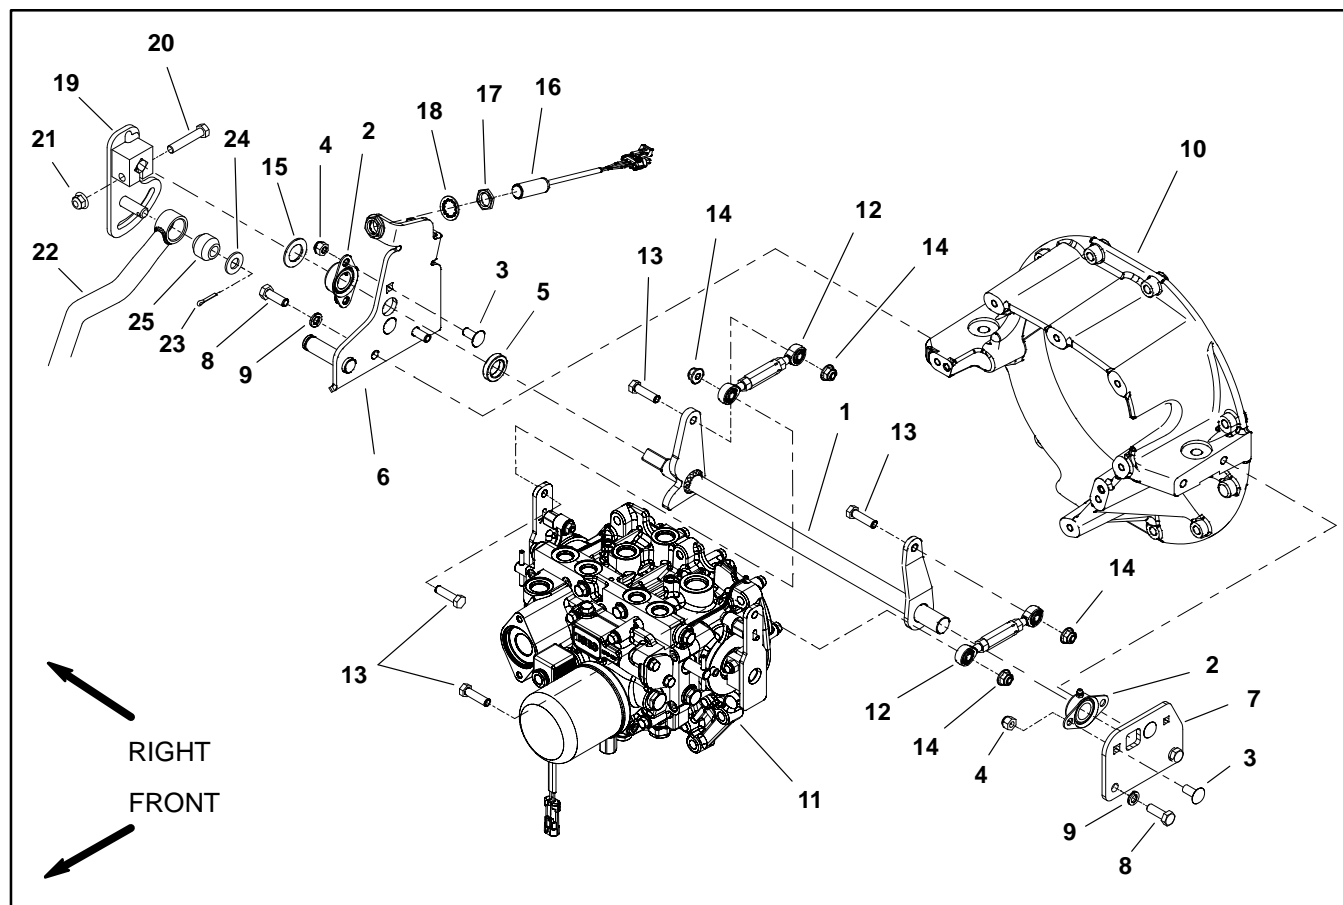
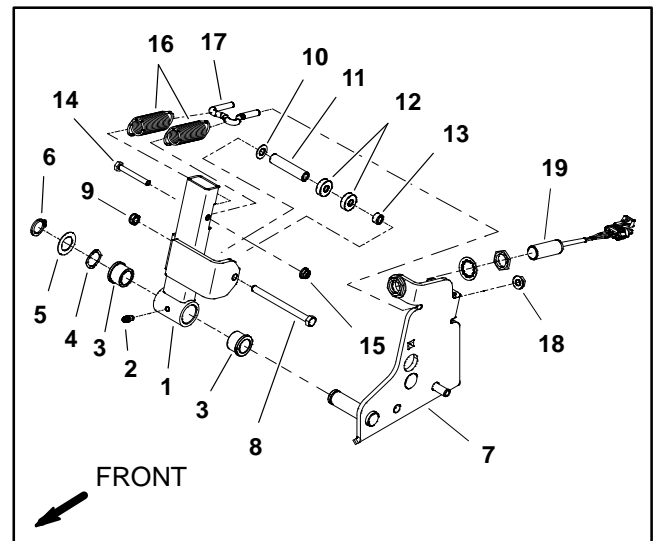
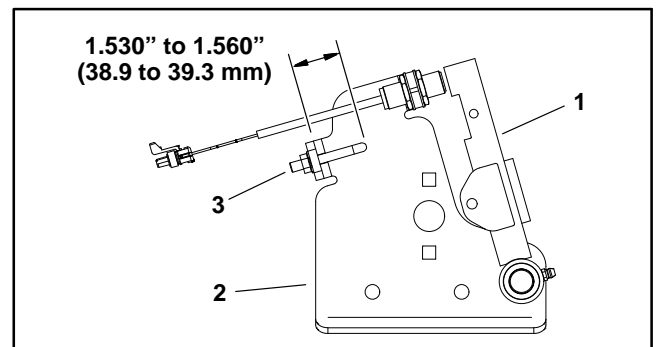

Figure 60
Figure 61
Figure 62
The Groundsmaster 360 transmission includes two (2) piston pumps. The swash plate in each of the piston pumps is controlled by the operator traction pedal through the traction linkage assembly. Correct assembly of the traction linkage assembly (Fig. 60) and neutral system (Fig. 61) is required for proper traction circuit operation.
1. If spring hook (item 17 in Fig. 61) that locates the bottom of the neutral arm spring is removed, install hook with flange nut so that distance from bracket on RH end plate to front side of spring hook is from **1.530" to 1.560" (38.9 to 39.3 mm)** (Fig. 62). If quicker return to the traction neutral position is desired, adjustment to spring hook can made to increase spring tension. This adjustment will also result in higher pressure required to depress traction pedal.
2. When securing traction lever (item 19 in Fig. 60) to speed control shaft (item 1), make sure that cap screw is inserted through the relief in the control shaft.
3. If link assemblies (item 12 in Fig. 60) are removed, install the links so that the rod end with left hand threads is secured to the speed control shaft.
4. Adjust the link assemblies (item 12 in Fig. 60) as follows:
8. Lubricate grease fitting on neutral arm (item 2 in Fig. 61) after assembly of all traction linkage components.